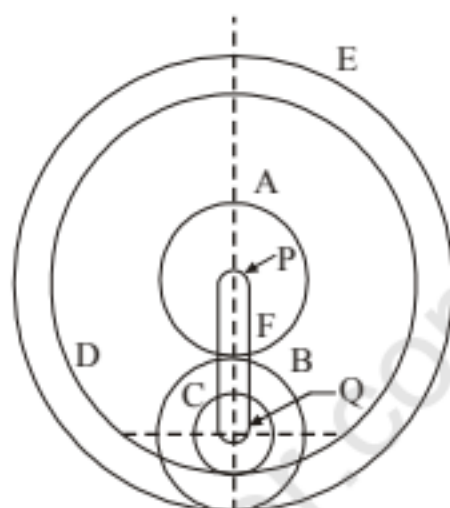

FIG.1
17. A compound epicyclic gear is shown diagrammatically in Fig. 1. The gears A , D and E are free to rotate on the axis P . The compound gear B and C rotate together on the axis Q at the end of arm F . All the gears have equal pitch. The number of external teeth on the gears A , B and C are 18, 45 and 21 respectively. The gears D and E are annular gears. The gear A rotates at 100 r.p.m. in the anticlockwise direction and the gear D rotates at 450 r.p.m. clockwise. Find the speed and direction of the arm and the gear E .